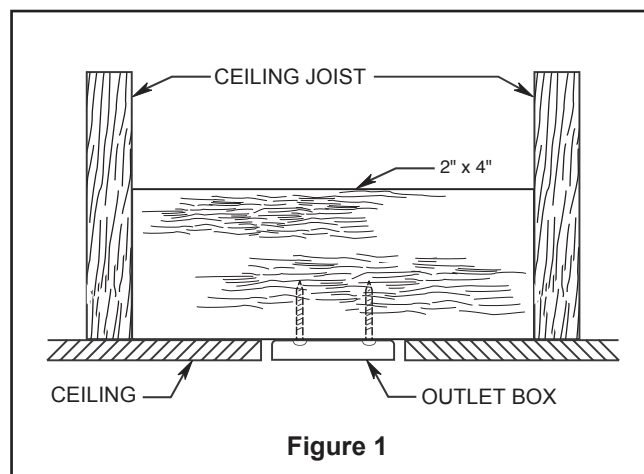
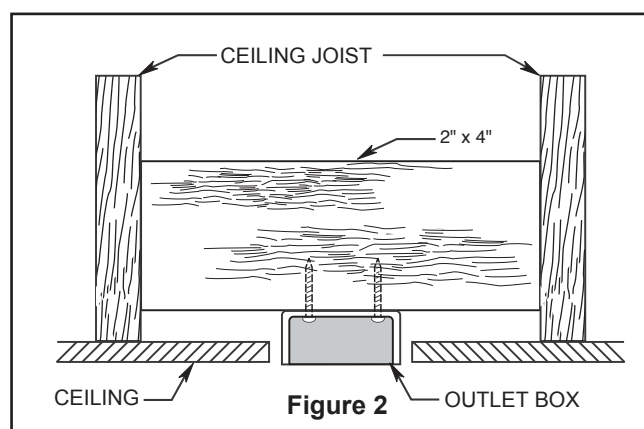
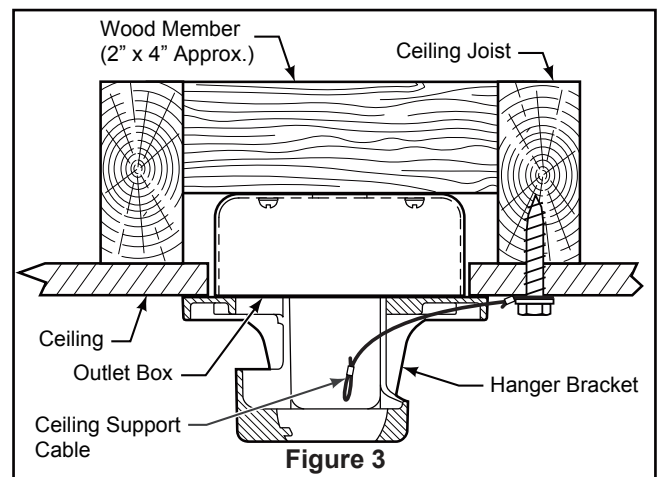

Figure 1
Figure 2
Figure 3
Your new ceiling fan will require a grounded electrical supply line of 120 volts AC, 60 HZ, 15 Amp Circuit. Electrical code requires use of a fan-rated outlet box to support the extra weight and motion associated with a ceiling fan. A fan-rated box will be labeled as such and typically supports up to a 70lb ceiling fan. Fan-Rated Outlet Boxes vary in ratings and design. Ensure the ratings of your ceiling fan outlet box meet the requirements for the ceiling fan being installed. Figure 1, Figure 2 and Figure 3 depicts different structural configurations that may be used for mounting the outlet box.
### Low profile box (Figure 1)
### Deep box (Figure 2)
### Deep box with brace (Figure 3)
3. Loosen the two set screws and locking nuts in the downrod support of the motor assembly. Route the brown, blue, red, gray, yellow wires and safety cable through the downrod. (Figure 3)
1. Securely attach the hanger bracket to the outlet box using the outlet box screws and washers supplied with the outlet box. (Figure 3)
2. Drill a 1/4" pilot hole into the building structure to prevent splitting or cracking with installation of the lag bolt. Using the 3/8" x 2" lag bolt and flat washer, attach safety cable to ceiling joist or wood structural member. The lag bolt will pass through the flat washer, safety cable loop, and into the building structure. (Figure 3)
**NOTE:** Ceiling support cable cannot be secured to outlet box only, it must be directly secured to ceiling joist or structural member using the 3/8" x 2" lag bolt and flat washer. (Figure 3)
- 2. Slide the receiver into the hanger bracket before wiring as shown in figure 3.
3. Assemble the light plate assembly to the support bracket using the two key slots in the light plate assembly. Replace the previously removed screw and securely tighten all three screws. (Figure 3)
3. Remove the battery cover from remote control by screwdriver and retain the screw for later. (Figure 3)